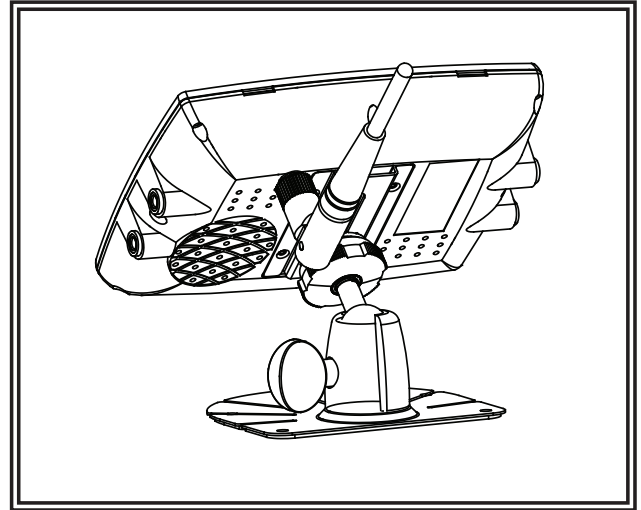

Figure 8
2. Fix the monitor to the base support and adjust the view angle. (Figure 8)